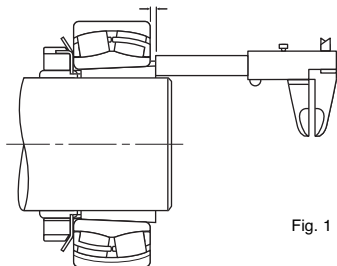

Fig. 1
5. Measure dimension 'X' as shown above in Fig. 1.